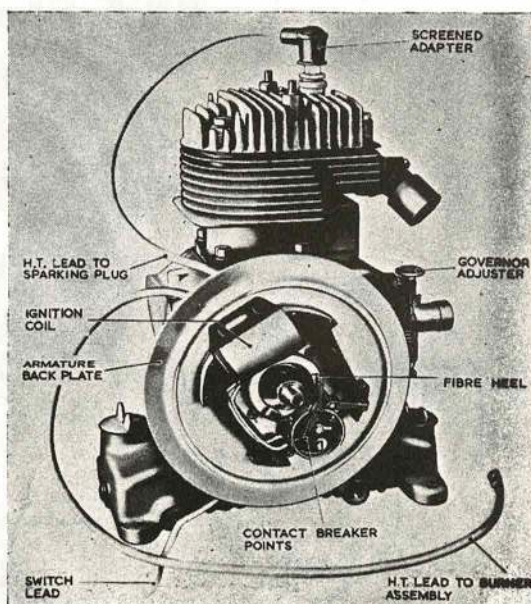

Fig. 9. FLYWHEEL MAGNETO
16. A flywheel type of magneto (Fig. 9) is fitted to the engine. The ignition coil, laminated armature and contact breaker mechanism are assembled on the armature back plate which is secured to the crankcase. The contact breaker operating cam and the two magnets which produce changes of magnetic flux in the pole pieces and core of the coil are secured to the flywheel. The ignition switch is mounted on the control panel and, when closed, earths the magneto primary circuit and stops the engine. This switch is connected in parallel with the thermostatic switch on the heat exchanger.